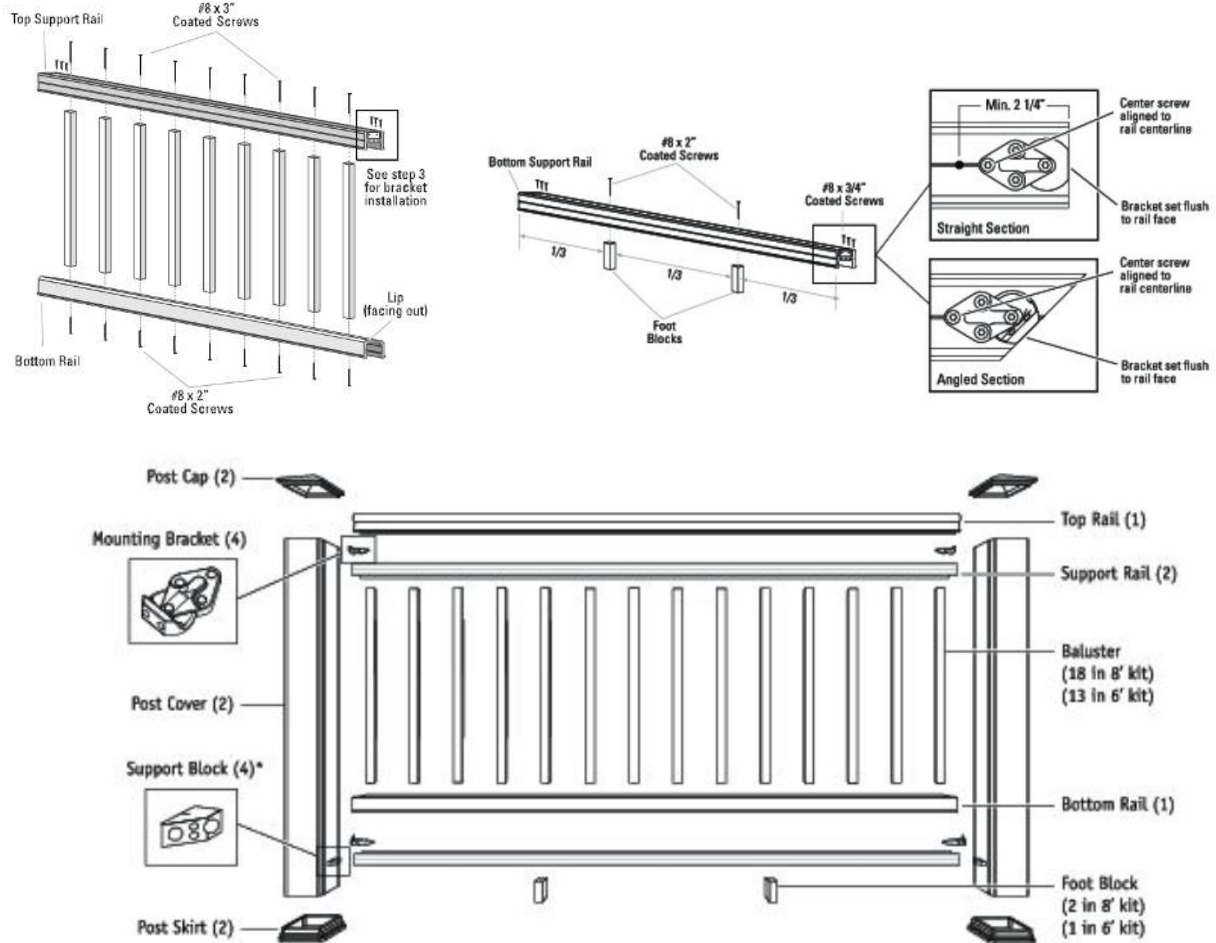

FIGURE 14 – TIMBERTECH® RADIANCE RAIL® AND AZEK TRADEMARK, PREMIER, AND RESERVE Level Assembly with Expanded Cellular PVC Balusters
5.2.1 Foot blocks are a section of nominal 1.2” square extruded composite picket with an expanded PVC core to facilitate fastening. Foot blocks shall be installed at approximate 1/3 intervals for rails over six feet in length or at mid-span for rails less than six feet in length of the bottom guardrail between the deck surface and the guardrail. See Table 3 and Figures 14 through 19.